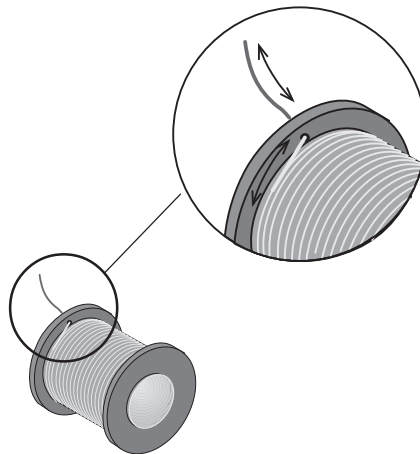

Figure 3. Direction of the Wire Winding on the Coil
- ① Rotate the armature and observe how the segments of the split ring commutator contact the brushes as the armature turns.
- ② Remove the armature from the shaft by grasping it between your thumb and forefinger and rotating it back and forth while lifting gently. If necessary, insert a pencil between the brushes to gently separate them to remove the armature.
- ③ Examine the armature closely and imagine current entering one of the split rings from a brush. Trace the path of the current through the wire to the coil, through the coil, through the wire to the coil on the opposite side of the armature, through that coil, and through the wire to the other split ring and into the second brush. By carefully examining the part of the coils where the wire emerges from the coil, you can determine the direction in which the wire is wound on the coil (see Figure 3).